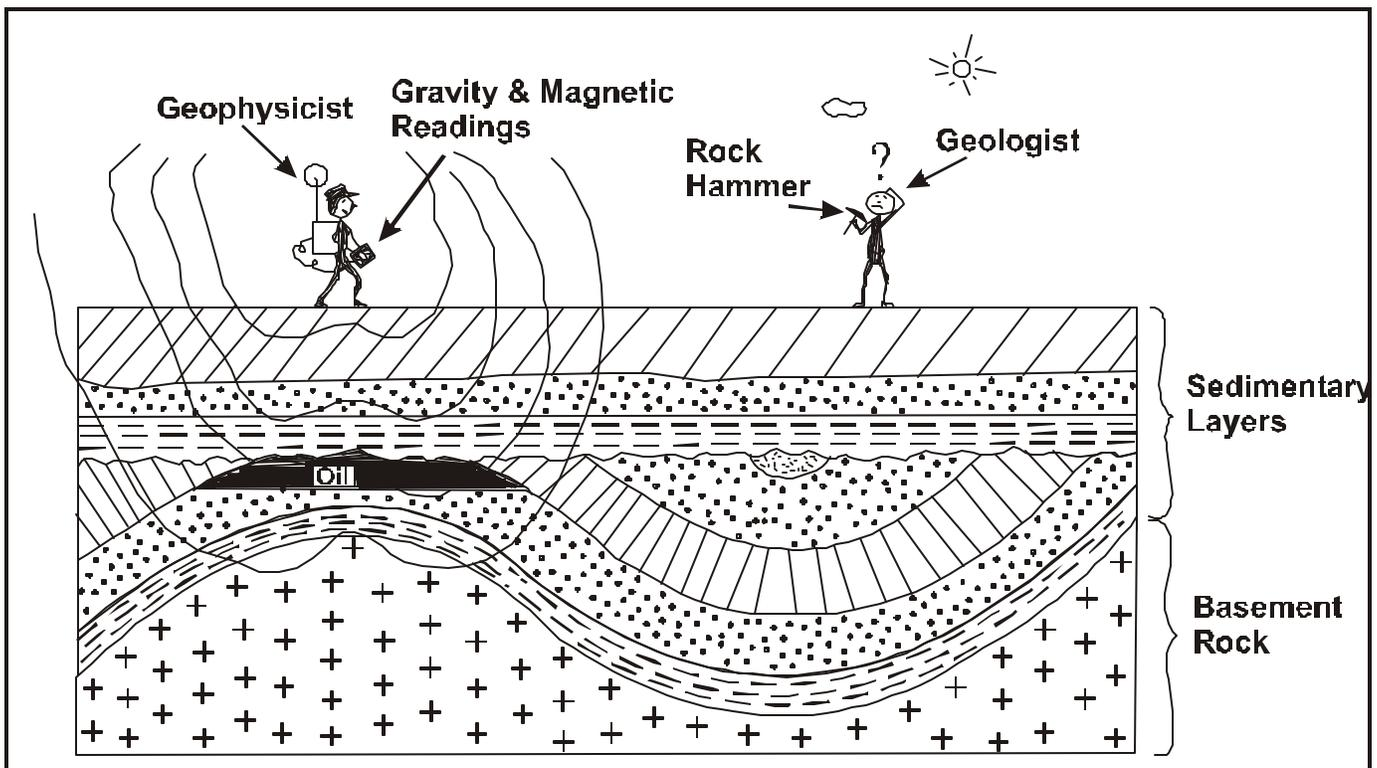

Figure 6.2
In most areas, the subsurface structure cannot be determined from studying the surface alone. In such areas, the formations may have been eroded and then covered by thick layers that do not parallel the underlying beds (Figure 6.2); or the area may be covered by swamps or jungle or may even be under the ocean as is the case on the Grand Banks of Newfoundland. Fortunately, the geologist has a friend to help out in these situations. That friend is the *geophysicist*.
A sedimentary basin is normally underlain by igneous and/or metamorphic *basement rocks* (Figure 6.2). These basement rocks have two important properties that distinguish them from sedimentary rocks in the eyes of a geophysicist. (1) They are more magnetic than sedimentary rocks; and (2) They are more dense than sedimentary rocks. These two differences provide the basis for two very useful geophysical techniques; magnetic surveying and gravity surveying.